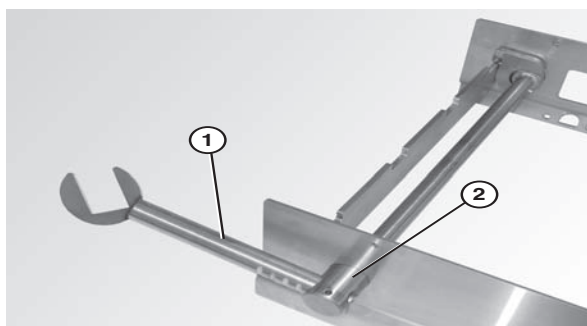

Figure 13
3. Attach the nose bar idler shaft hands (**Figure 13, item 1**) to the tip up shaft (**Figure 13, item 2**).